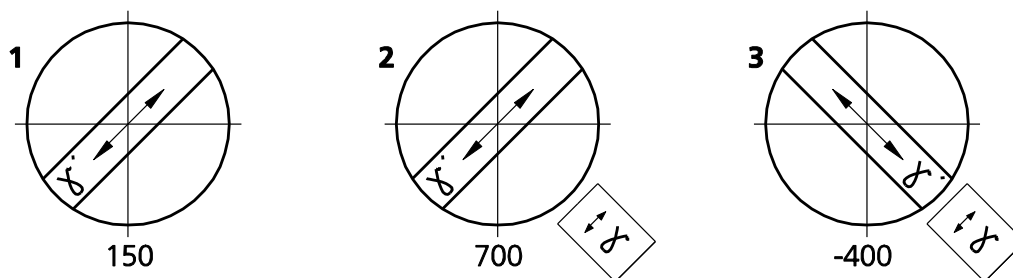
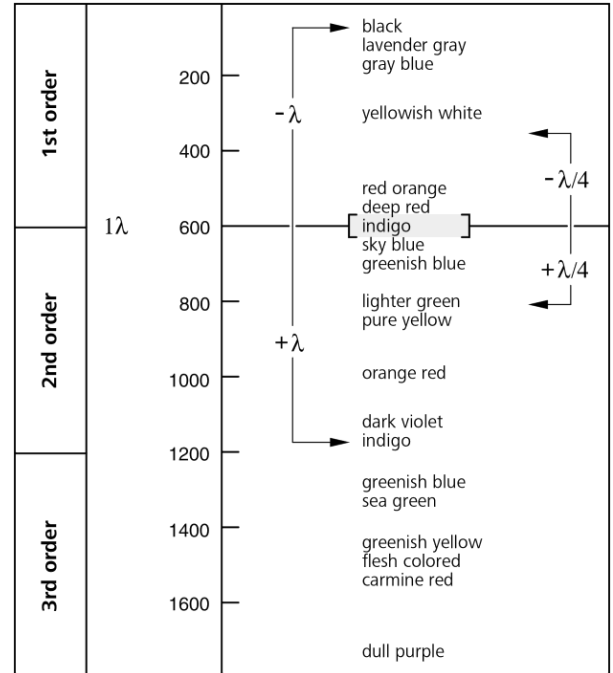

Fig. 4-8 Determining the polarization direction n_γ using a synthetic fiber as an example
Fig. 4-9 Schematic diagram of the color charts developed by Michel-Lévy
- Now rotate the stage by 45° so that the longitudinal axis of the fiber is oriented NE-SW (Fig. 4-9). The sample will display the greatest brightness here (diagonal position). In this position the sample may have any color.
The largest path difference occurs when the polarization direction of the sample with the absolutely or relatively highest refractive index (n_γ or $n_{\gamma'}$) is parallel to the principal polarization direction of the lambda compensator. The sample will then appear greenish-blue, for example (Fig. 4-8/2).
The smallest path difference occurs when the polarization direction of the sample with the absolutely or relatively lowest refractive index (n_α or $n_{\alpha'}$) is perpendicular to the polarization direction of the lambda compensator. The sample will then appear yellow, for example (Fig. 4-8/3).
The gray-white color appearing first in the bright position in the above example (Fig. 4-8/1) corresponds to a path difference of 150 nm according to the Michel-Lévy color chart (Fig. 4-9).